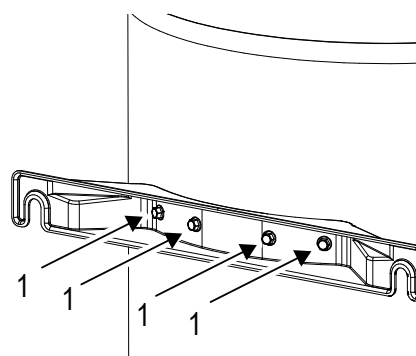

fig. 21
Never (under penalty of invalidating the product warranty) remove the indicated screws (item 1 - fig. 21) to use the wall bracket as a mounting template on site.